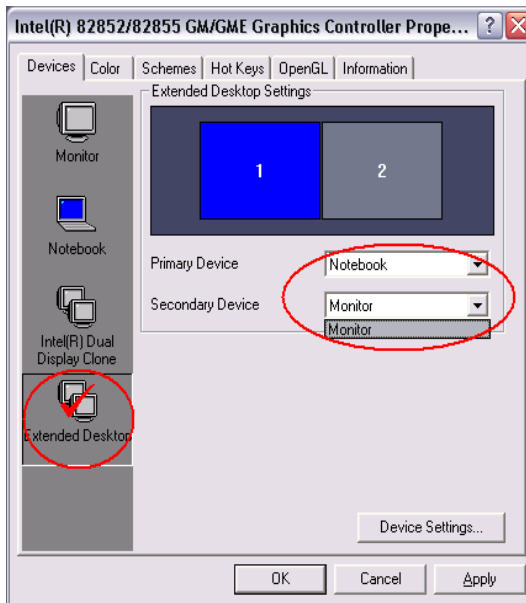

Figure B-2 Intel(R) 82852/82855 GM/GME Graphics Controller Properties
**[Intel(R) 82852/82855 GM/GME Graphics Controller Properties]** displayed. (See Figure B-2)
b. Click  in the left of [Devices] tab (See Figure B-2), then select **[Extended Desktop]**.